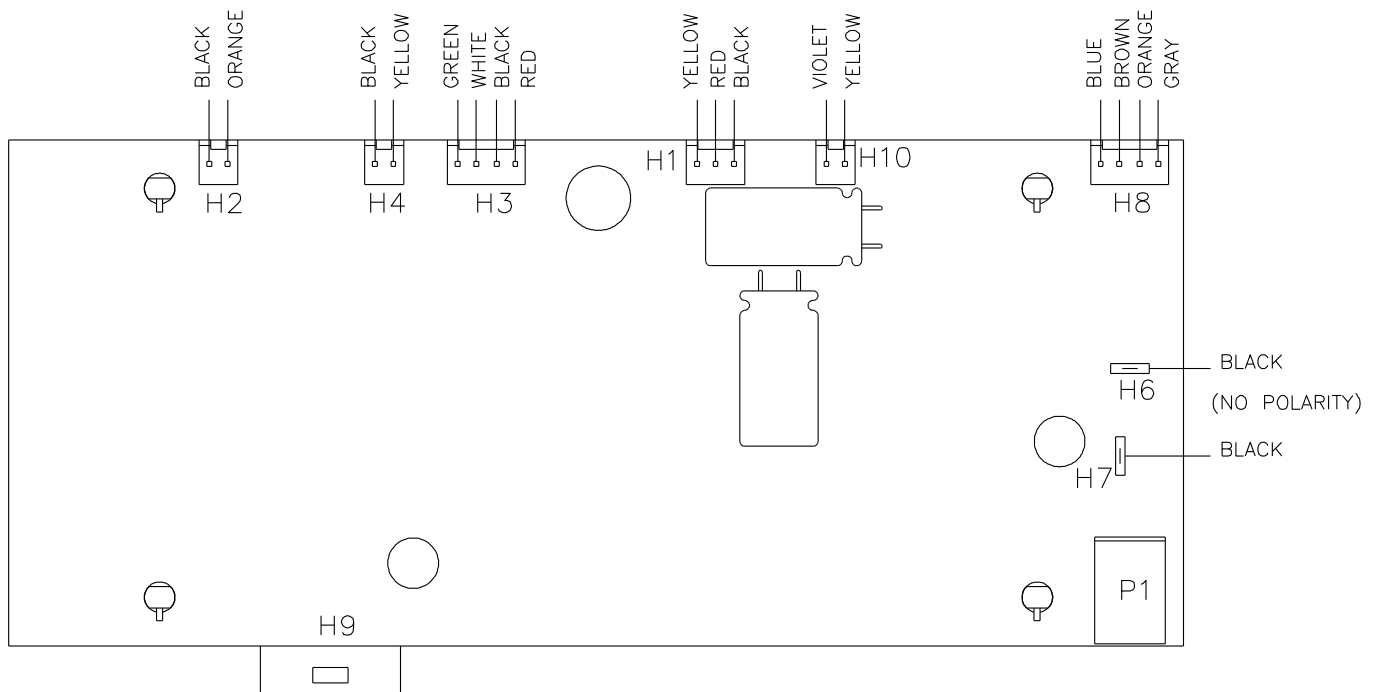

FIGURE 1
Removal Instructions (See Figure 1)
Installation Instructions (See Figure 1)
5. Re-connect the circuit board connections as shown in **Figure 1**.